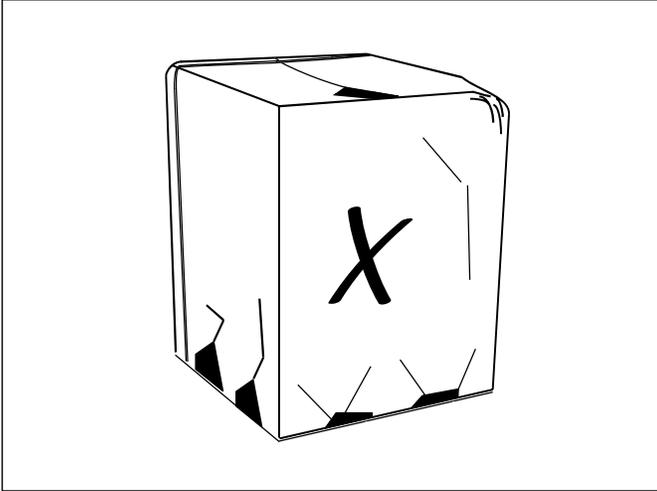

Figure 10
- Check for damage and report promptly to the carrier any damage found to the unit (Figure 10).